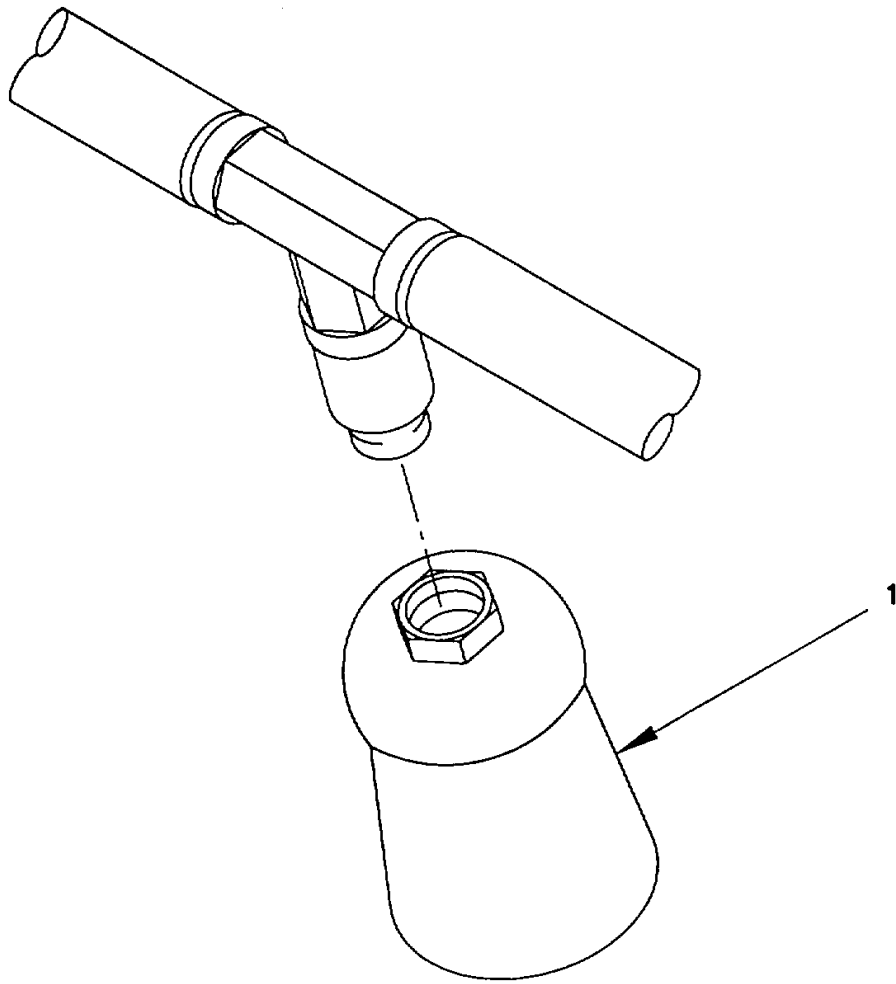

Figure 2-39. Discharge Nozzle, Fire Suppression System, Remove/Install.
- a. *Remove.* (figure 2-39)
- (1) Unscrew discharge nozzle (1) and discard.
- b. *Install.* (figure 2-39)
- (1) Apply Teflon tape to male pipe threads.
- (2) Install new discharge nozzle (1) and secure tightly.